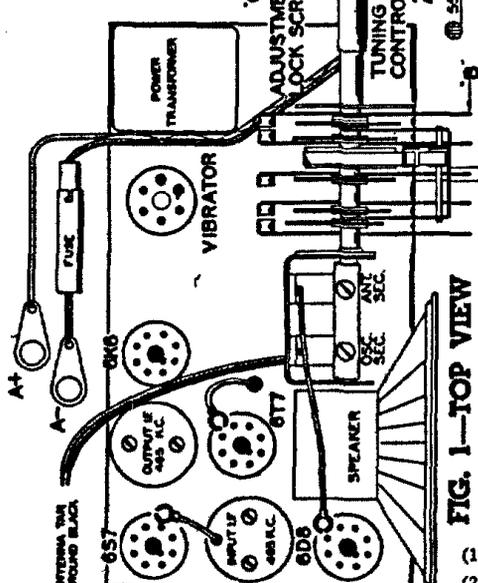

FIG. 1—TOP VIEW
These I.F. transformers have two adjustments, both of which are accessible from the top of chassis (see Fig. 1).
- with external oscillator set at 1720 kilocycles, adjust oscillator trimmer to resonance. This adjustment is on the top of rear section of variable gang condenser. (See Fig. 1).